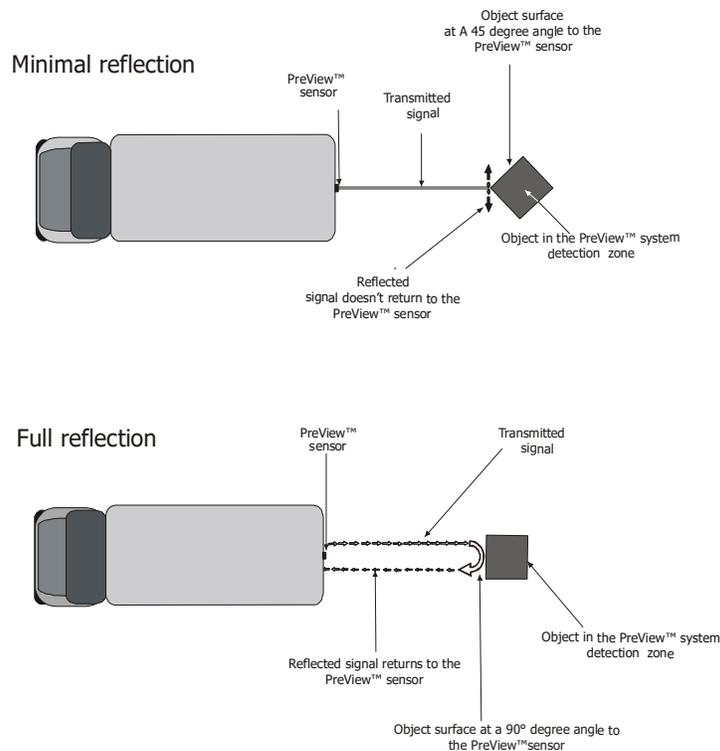

Figure 1. Object Reflection
- 1) IF VEHICLE REVERSE INDICATION SWITCHES A NEGATIVE (GND) LEAD, CONNECT TO PREVIEW USING RELAY AS SHOWN IN FIGURE 1.